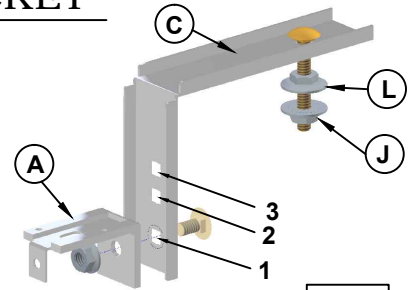

FIG. 3
DETERMINE APPROPRIATE POSITION OF YOKE SUPPORT WINGS (A) AND TIGHTEN TO YOKE WITH 1/4-20 CARRIAGE BOLTS AND NUTS PROVIDED. (REF. FIG. 3)